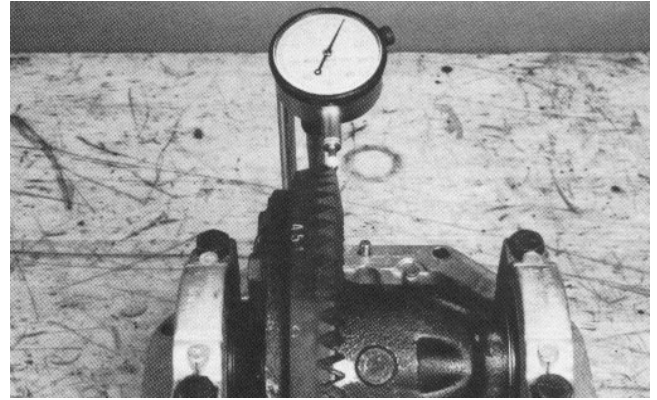

Figure 53
19. Using a dial indicator, check the ring gear backlash in three equally spaced points. Ring gear backlash should be .003 - .007 inch (.076 - .178 mm) and must not vary more than .002 in. between points checked (Fig. 53).